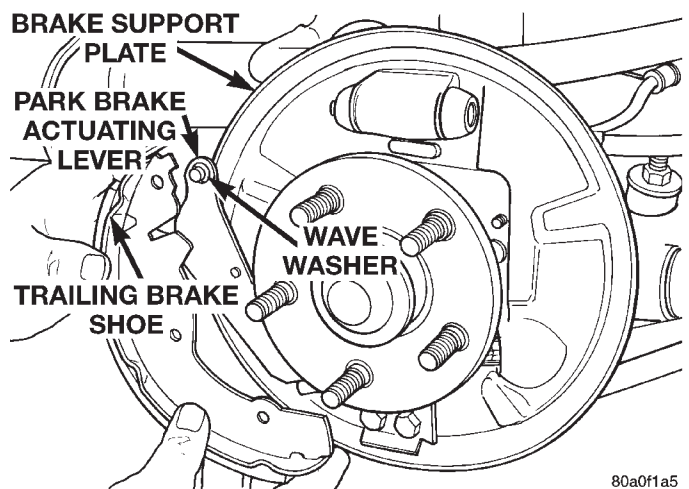

Fig. 67 Remove /Install Trailing Brake Shoe
(12) Remove the trailing brake shoe from the brake support plate and the park brake actuating lever (Fig. 67).
(3) Install the trailing brake shoe on the park brake actuating lever (Fig. 67)